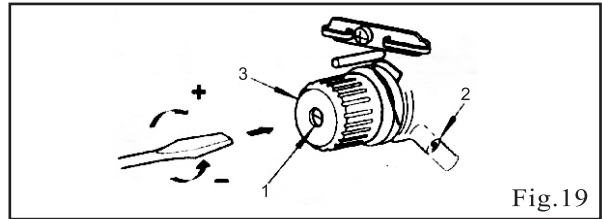

Fig.19
15. ADJUST BOBBIN THREAD TENSION (Fig. 19)